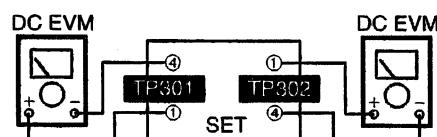

Fig. 2
1. Connect the measuring instruments as shown in Fig. 2.